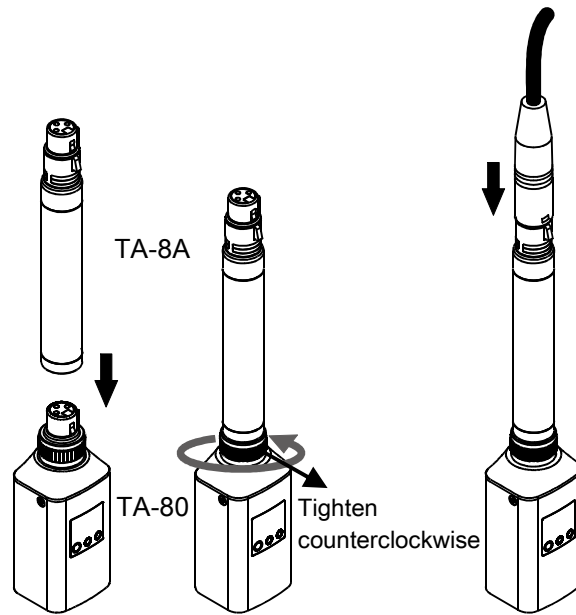

Fig. 24
2. TA-8A: Connecting with TA-80 and a microphone, Fig. 24.